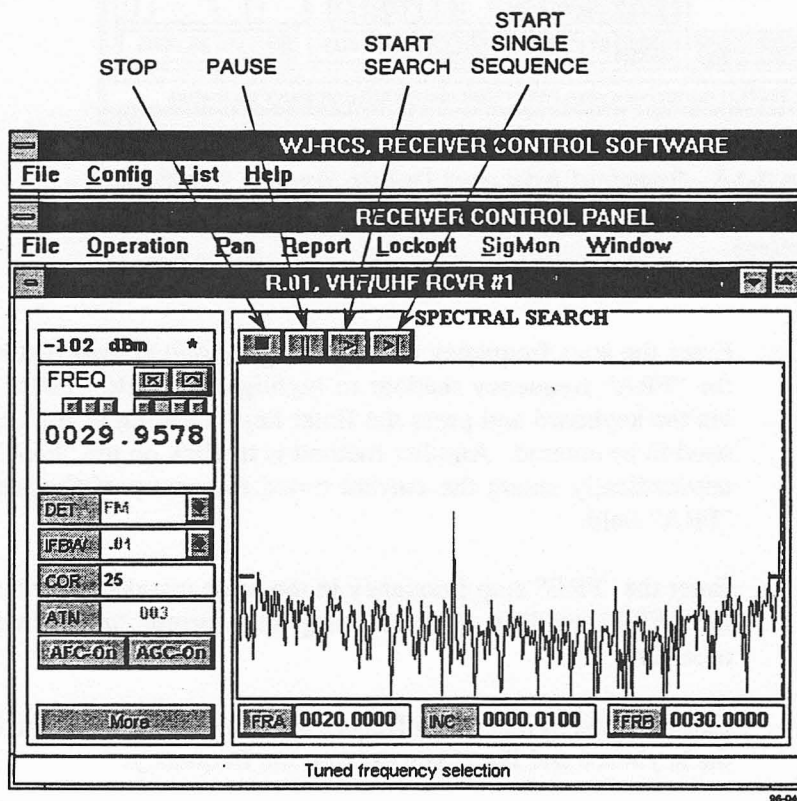
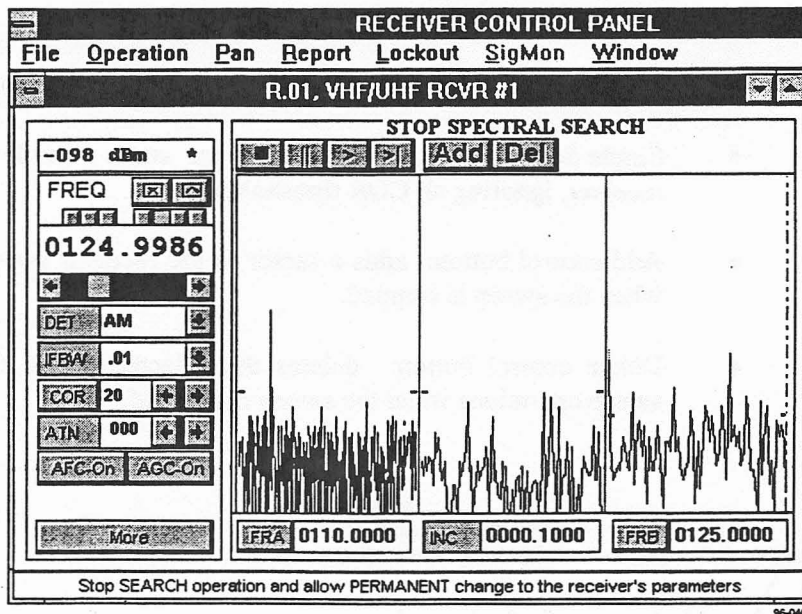
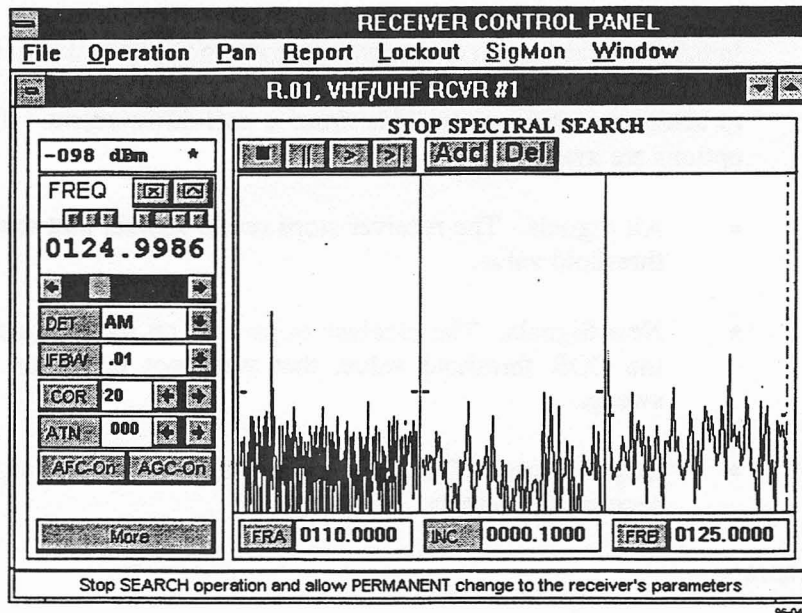

Figure 3-13. Spectral Mode Sweep Control Buttons
Figure 3-14. Spectral Add and Delete Sector Buttons
Figure 3-15. Spectral Operation With Three Sweep Sectors
Spectral Search operation permits and excutes up to ten independently programmed sweep sectors. See Figure 3-13 and 3-14. To add a sweep sector, use the "Stop" control button to stop the search operation. Click on the "Add" button to open another sweep sector. The operator can then change the new sector to the desired values. After completing the set-up of the sweep values, click on "Start Search" button to activate the search. During the Spectral Search operation, RF Pan displays of each sweep sector is available on screen. Use the "Pan" menu from the menu bar to mainpulate and tailor the RF presentation for optimum viewing. There are two groups of control buttons located directly above the RF Pan display that play a major role in the spectral search operation. These buttons, from left to right respectively, perform the following functions:
To start the sweep, click on the Start Search or the Single Sequence Search button. See Figure 3-13. The single Sequence Search button enables a single sweep of the sector while ignoring the receiver’s COR value. The Start Search button starts the receiver’s normal sweeping action.
To create additional sweep sectors, stop the sweeping operation by clicking on the Stop Search control button. See **Figure 3-13**. The current sweeping action stops and two control buttons appear above the Pan Display. See **Figure 3-14**.
Add additional sectors in the same manner. Each click on the “Add” button produces an additional sector on the Pan Display. Ten sectors are available per receiver. After creating the sectors, start the receiver sweeping action by clicking on the Start Search button (see **Figure 3-13**). **Figure 3-15** depicts a receiver configured with three sweep sectors.
To delete sectors, stop the receiver sweep by clicking on the Stop Search button (see Figure 3-13). Place the cursor within the sector being deleted and click the mouse. Click on the "Del" button above the Pan Display. See Figure 3-14.
- Suspend the sweep by clicking on the desired signal. A dashed vertical line appears and the frequency readout on the receiver control panel displays the selected frequency. Click on the Lockout Control button to add the data. Restart the sweep by clicking the Start Search button above the Pan Display (see **Figure 3-13**).